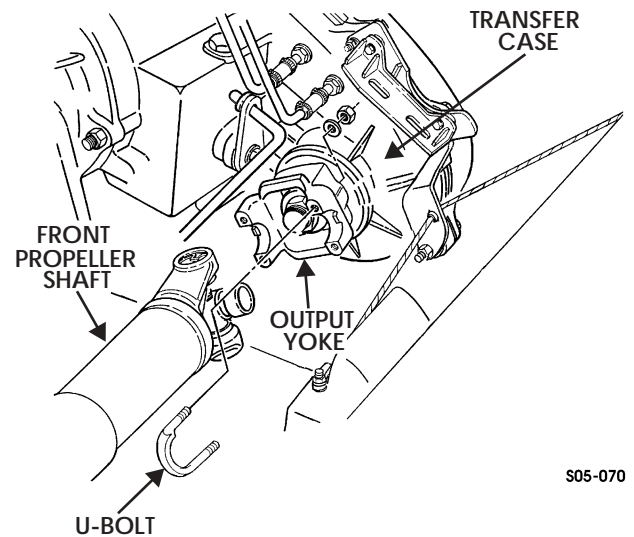

Figure 5-118: Output Yoke
1. Remove four nuts, washers, two U-bolts, and front propeller shaft from output yoke (Figure 5-118).
3. Connect front propeller shaft to output yoke with two U-bolts, four lockwashers, and nuts. Tighten nuts to 13-18 lb-ft (18-24 N•m) (Figure 5-118).